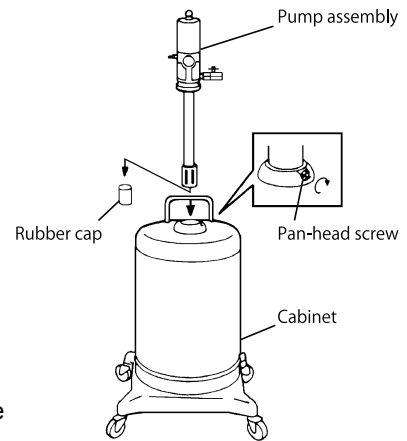

Fig. 1
- 1) First loosen the pan-head screw and take out the pump from the cabinet. Remove the rubber cap at the bottom of the pump assembly, insert the pump into the cabinet, and fix it with a pan-head screw. <Assembly of Equipment> indicated on the top surface of the corrugated fiberboard case. (Fig. 1)